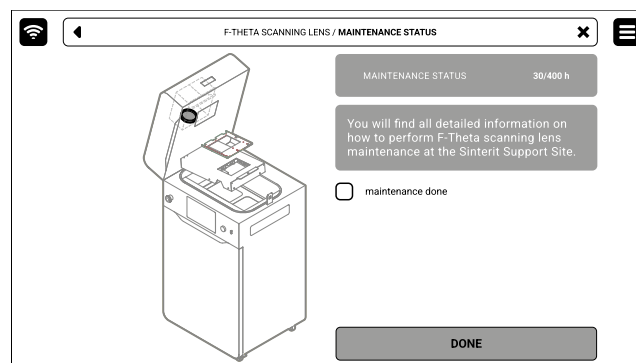

Fig. 12.42 The screen of the maintenance of the F-Theta scanning lens.
2. Mark **MAINTENANCE DONE** to complete the cleaning procedure, and then the **DONE** button. The timer will reset to zero (fig. 12.42).